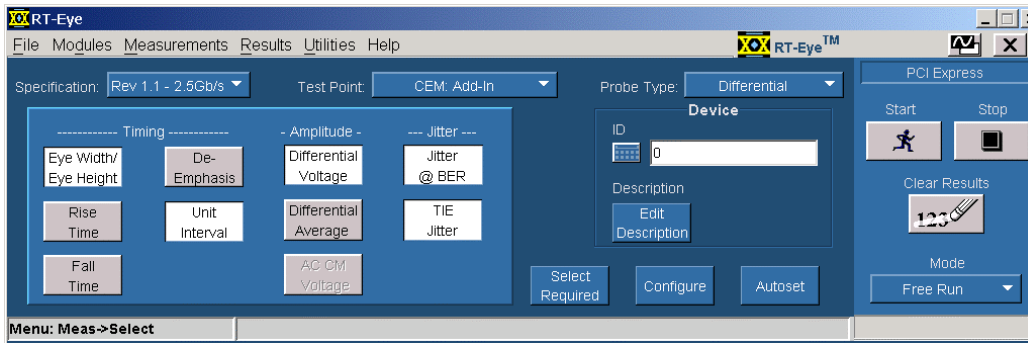

Figure 25: Measurements Select menu for add-in card test point
4. In the Measurement Select menu (Figure 25), choose **Single-Ended** (for probe configuration A defined in Section 3) or **Differential** (for probe configurations B defined in Section 3) as the **Probe Type**.